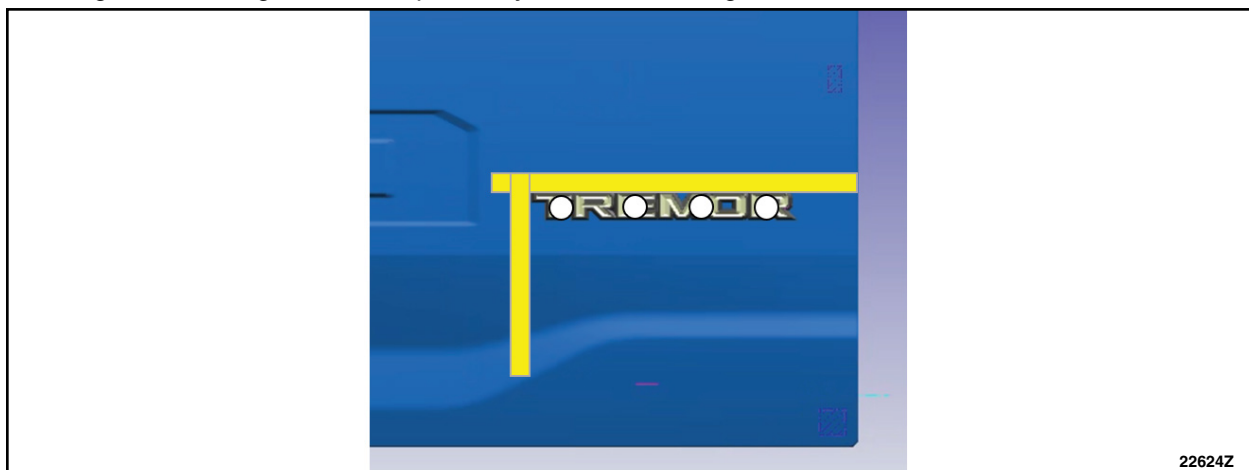

FIGURE 15
56. Remove the tape liner from the back of the badge and install to the door using the locating tape to properly align the badge. See Figure 15.
57. Using medium hand pressure, press for 3 seconds at a minimum of 4 separate locations along the length of the badge until the tape is fully adhered. See Figure 15.